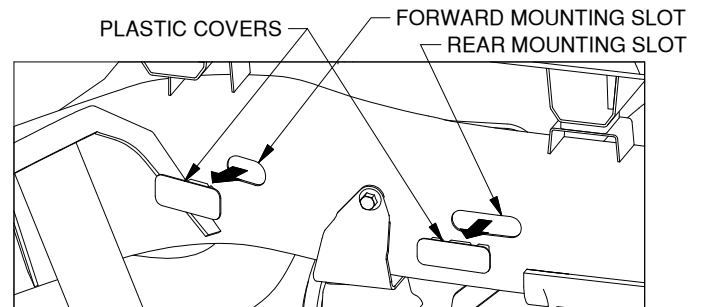
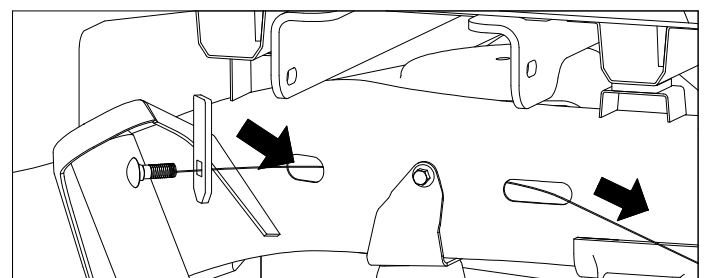
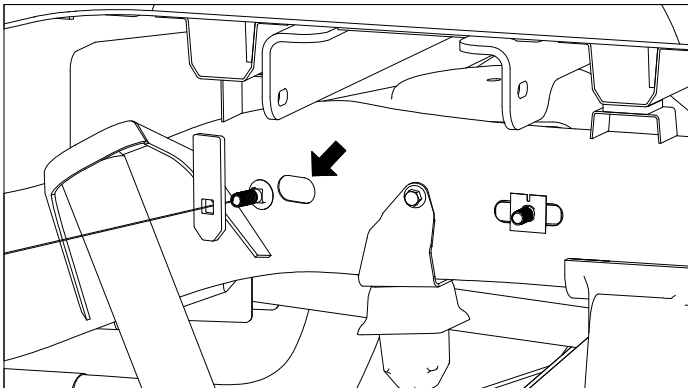
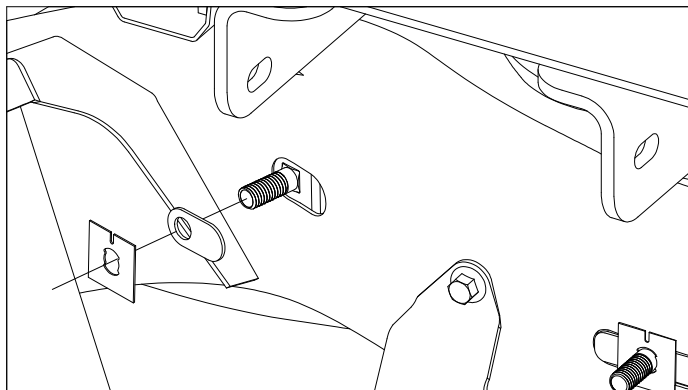

Figure A9: View looking into driver side wheel well.
Figure A10: View looking into driver side wheel well.
Figure A12: View looking into driver side wheel well.
Figure A13: View looking into driver side wheel well.
12. **Prepare to install carriage bolts.** Locate the plastic slot covers inside each rear wheel well, as shown in Figure A9. Remove four covers by prying them out of the frame. Discard the covers.
13. **Fish rear carriage bolt.** Locate the forward and rear mounting slots shown in Figure A9. Thread a 1/2" x 1-1/2" carriage bolt and locking strap onto a fish wire. Pass the fish wire from the forward mounting slot through the frame and out of the rear mounting slot, as shown in Figure A10.
**15. Install forward carriage bolt.** Locate the forward mounting slot shown in Figure A9. Thread a carriage bolt and locking strap onto a fish wire. Insert the carriage bolt and locking strap through the mounting hole until both are completely inside the frame and only the carriage bolt is passing through the hole, see Figure A12. Install the oval frame spacer onto the bolt and place it into the slot in the frame, as shown in Figure A13. Thread a retainer onto bolt until it is snug. Repeat Steps 13-15 on other side of truck.